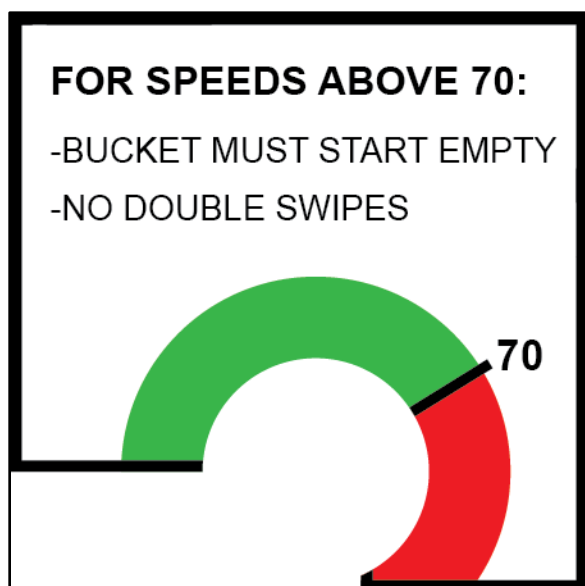
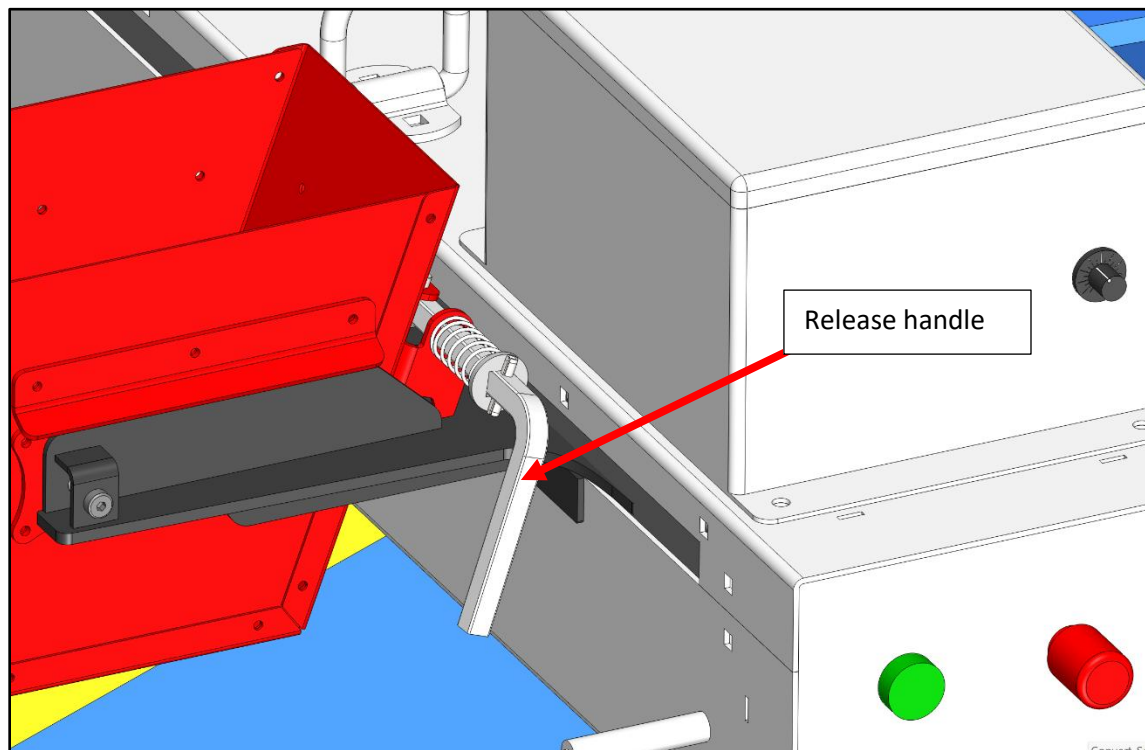

Figure 10 – Decal on sample taker with safety warnings.
Figure 14 – Detail of release handle.
- Figure 10 shows the speed dial warning decal which indicates two important points for speeds over 70%:
- The bucket is equipped with tabs that can be used to hang a sample pail on, as shown in Figure 10. After a sample has been obtained, a pail can be attached as shown and then the bucket dump handle can be pulled to allow the bucket to tilt downward, releasing the sample into the pail. Once the entire sample has been moved to the pail, the pail can be removed and the bucket moved back into its operating position. Care should be given to ensure the latch is properly seated on the bucket locking tab as shown in Figure 14 so that it doesn't inadvertently fall which can lead to damage or injury.